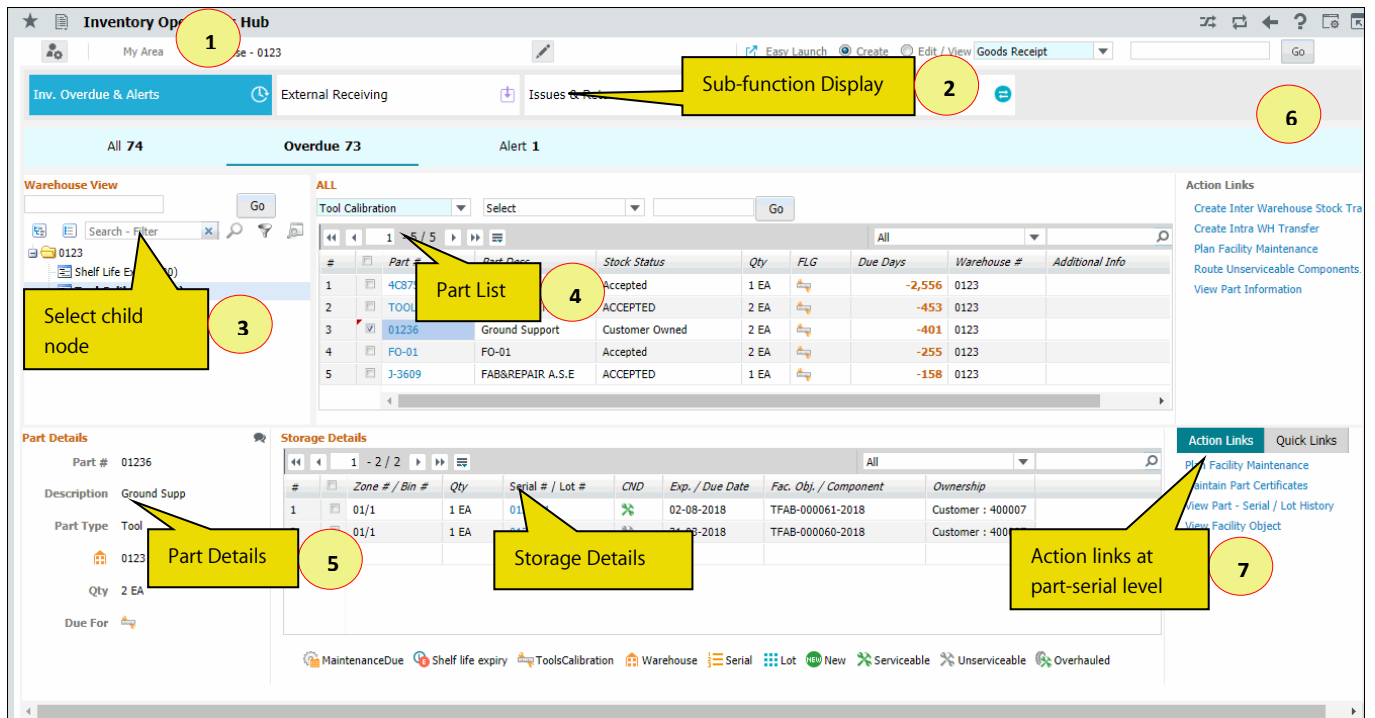

Figure 2.6 Managing inventory over-due and alerts
1. Select the **Inv. Overdue & Alerts** Function in the **Inventory Operations Hub**. See Figure 2.6.